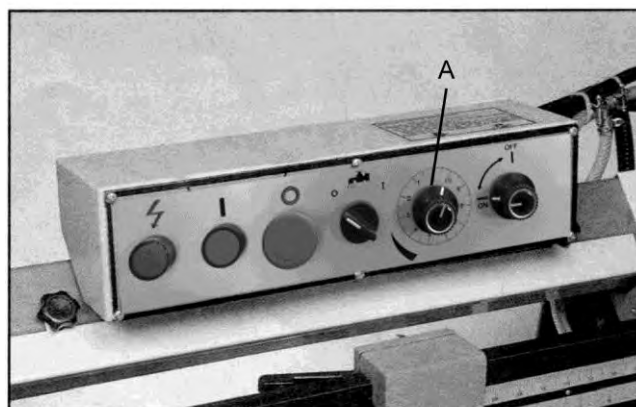

Fig. 6
When the oil regulating micro switch (A) Fig.6 is turned clockwise as far as it can go, the saw frame will not move down. By turning the feed control valve counter-clockwise, you regulate the flow of oil from the cylinder and determine the speed at which the saw frame will lower and the blade will feed through the work. Too many factors are involved to make tabulated data practical on feed rates. As a general rule, an even pressure without forcing the blade gives best results. Avoid forcing the blade at the start as this may shorten blade life and produce a bad cut. By inspecting the chip while the cut is being made will indicate whether the feed rate is correct. Fine powdery chip indicates a feed rate which is too light. The teeth are rubbing over the surface instead of cutting. Burned chip indicates excessive feed which causes the teeth to break off as the blade overheats. The ideal feed rate is indicated by chip that have a free curl and this will give the fastest cutting time and longest blade life.